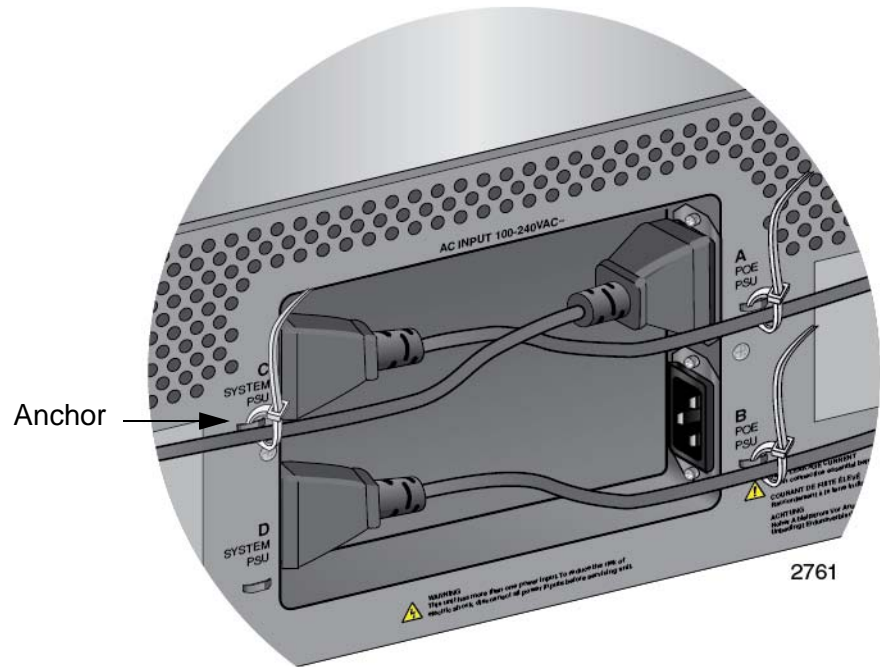

Figure 95. Securing the Power Cord for the AT-SBxPWRPOE1 Power Supply to an Anchor
3. Use the twist tie that comes with the power supply to secure the cord to an anchor on the chassis, as shown in Figure 95.